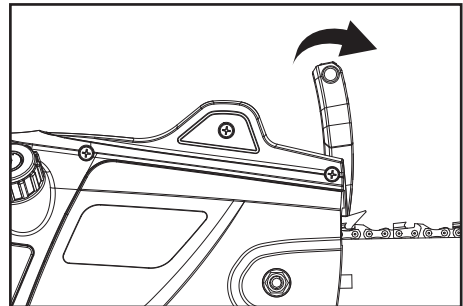

Fig. 5b
3. The chain brake in the engaged position, the saw chain is stopped as soon as the chain brake is activated (Fig. 5b).